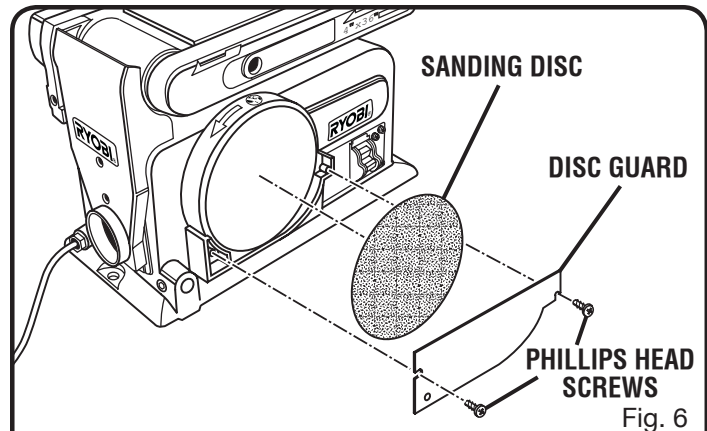

Fig. 6
See Figure 6.
- Position disc guard against the lower one-third of the disc, aligning holes as shown in figure 6.